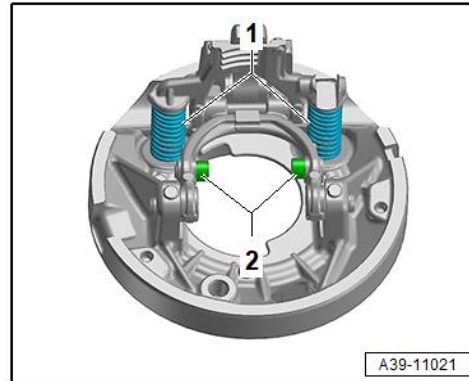

Figure 11. Shift fork assembly.
8. Remove the springs (Figure 11, position 1).
Remove the roller sleeves (Figure 11, position 2).